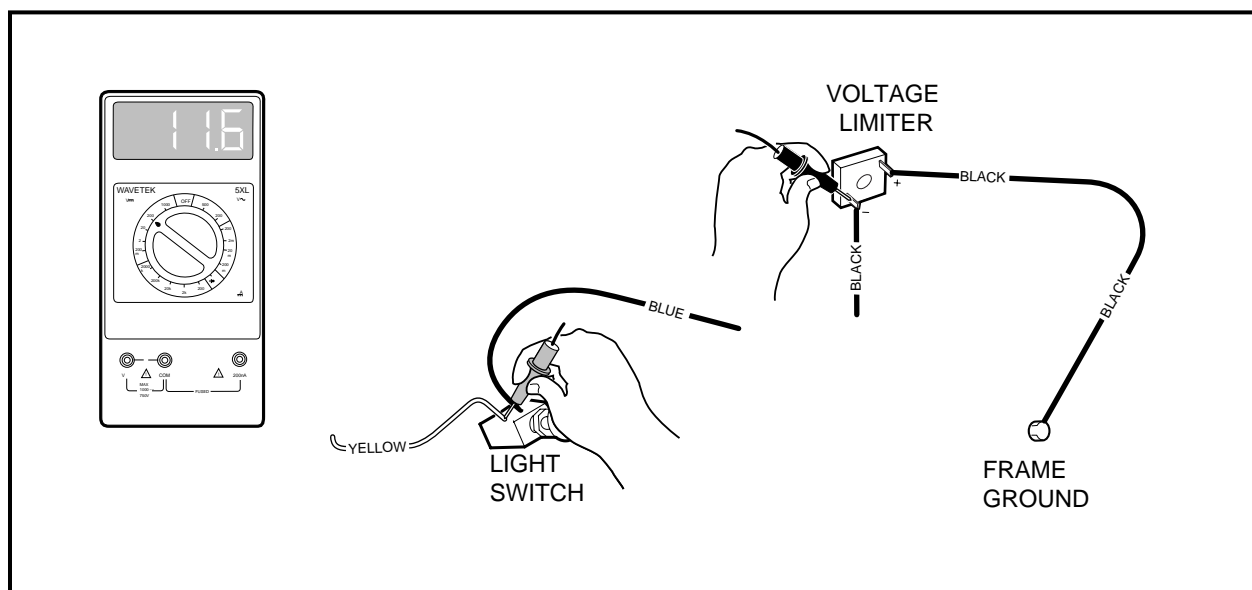

Figure 11-48 Headlight Diode Circuit Test
3. Using a multimeter set on 20 volts DC, connect the red (+) probe to the light switch terminal with the yellow wire (**Figure 11-48, Page 11-43**).
4. Loosen the black wire connector (on the end of the long black wire) at the headlight diode assembly just enough to maintain the connection and yet expose part of the metal terminal in the connector. Place black (–) probe on the connector (**Figure 11-48, Page 11-43**). **See following CAUTION.**